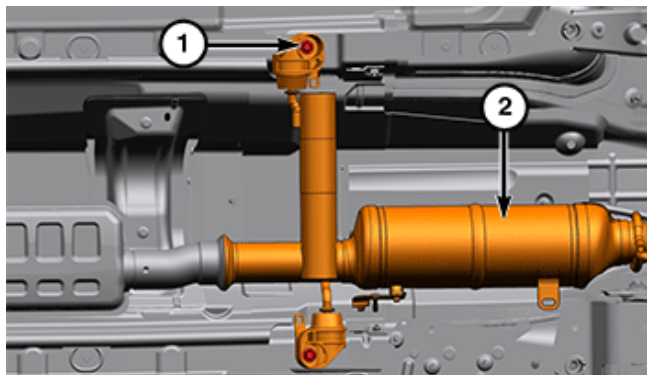

Figure 48 – Crossunder Pipe Isolators
- g. Remove the bolts (1) securing the crossunder pipe rear isolator to the vehicle body (Figure 48).